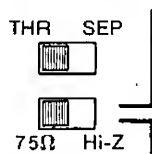

Fig. 1
When a single video signal is supplied to the Input A Connector (5) or Input B Connector (10), set this switch to THR position (Fig. 1). This will provide six (6) identical and isolated outputs to the Output A Connector (6) and the Output B Connector (7). The Termination Switch (11) should be set to 75 Ω position (Fig. 1).